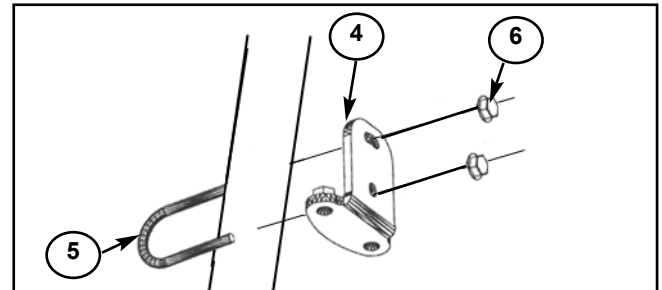

Figure 1
4. Start on the right side of the motorcycle and place the "U" Bolt on the frame down tube near the top of the engine. **Figure 1.**